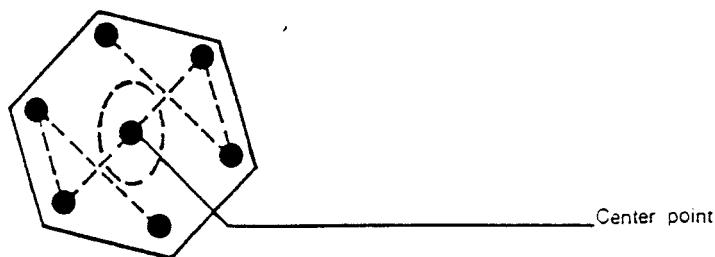

Fig. 15 Matrix Vector Diagram.
- (c) Channel 1 (X) is connected to TP206 (pin 21 of IC201) (R-Y)
- (d) Channel 2 (Y) is connected to TP207 (pin 22 of IC201) (B-Y)
- (e) Adjust amplitude balance VR202 until the centre points of two wave forms bring together (Fig. 15.)
- (f) Adjust T205 until all other points of two waveforms bring together (Fig. 15.)